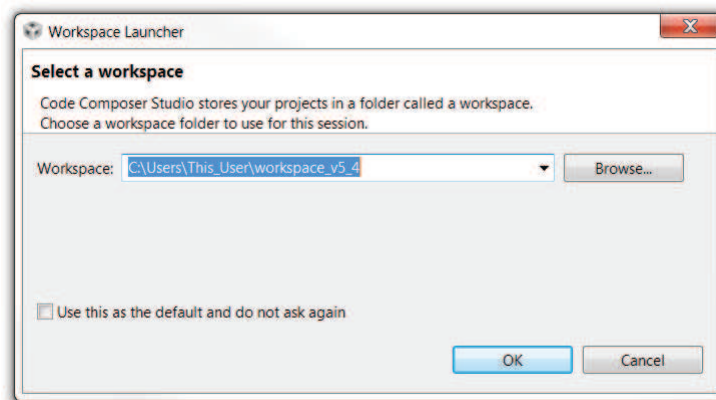

Figure 21. Workspace Launcher
- Step 2. Select the location and name of the workspace. The location and naming convention can be changed based on the user's preference (see Figure 21).